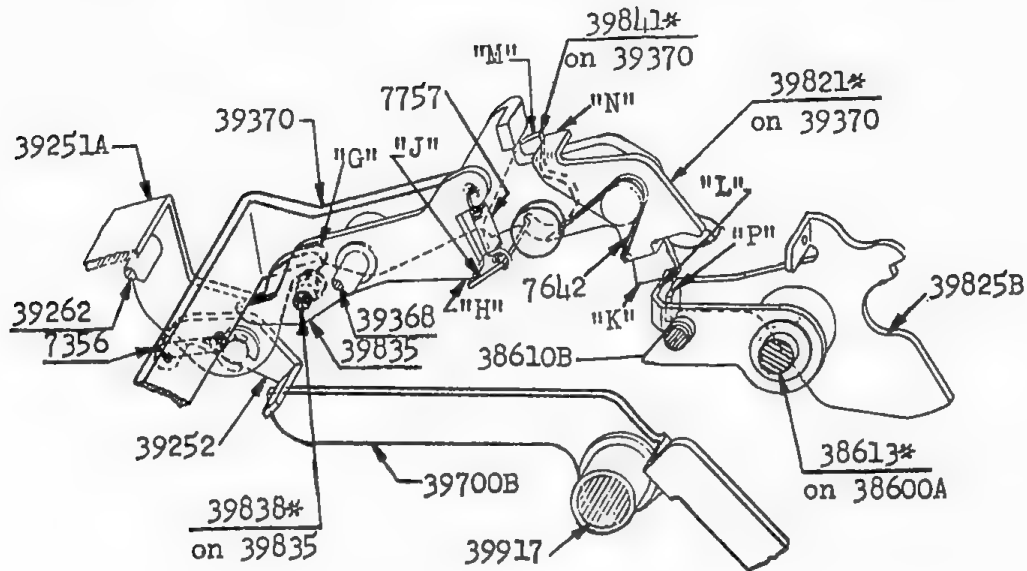

FIG. 63
3. (Fig. 63). When using a constant multiplier the X-Key must be depressed in order to align the carriage with the leftmost digit. If the multiplicand is entered into the Keyboard prior to that X-Key depression the Key-